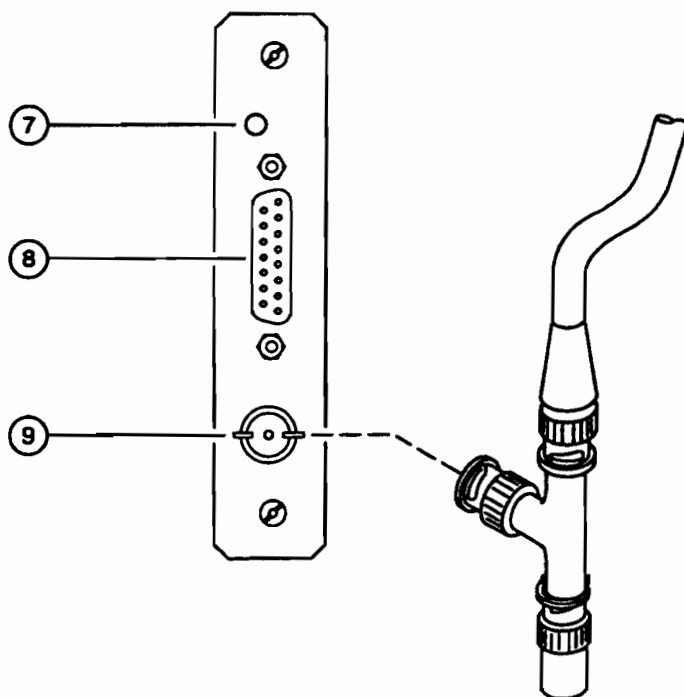
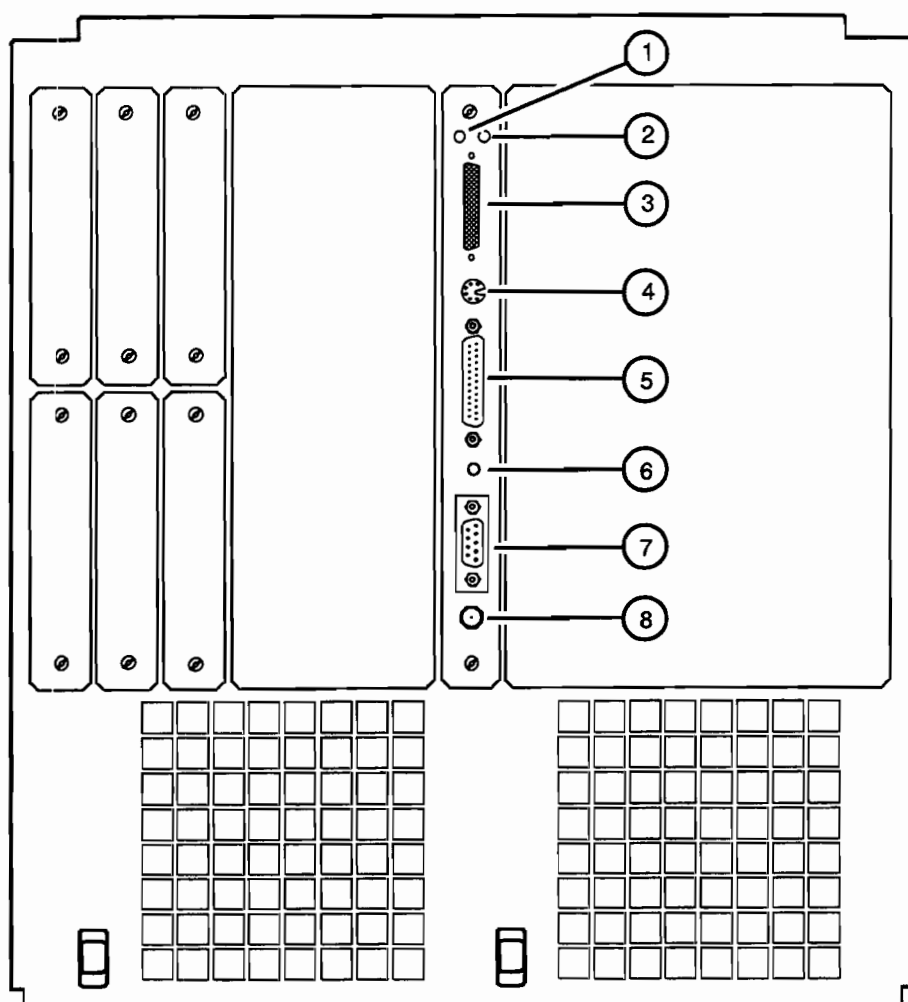
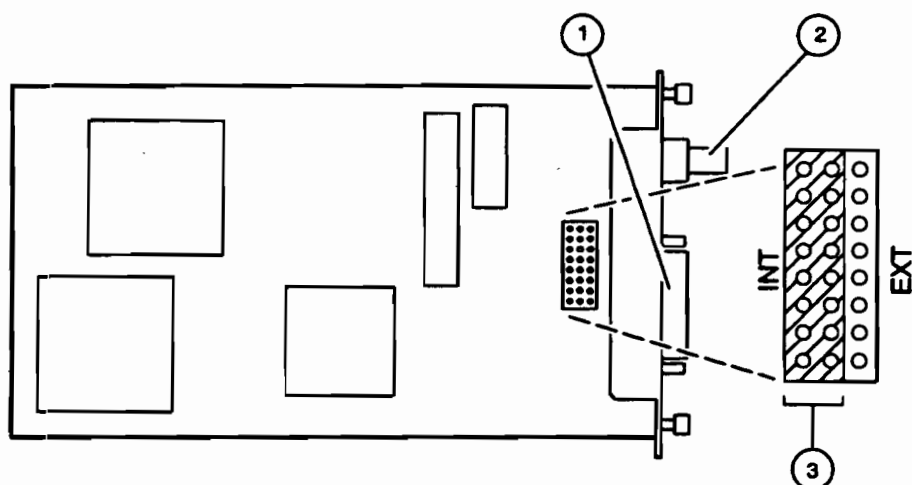

Figure 2-16. LAN Connectors
Figure 2-17. HP 9000 887S, 897S Rear Panel
Figure 2-18. LAN Card Jumper
You may have purchased an option for your HP 9000 817S, 827S, 837S, 847S, 857S, 867S, or 877S which removes the connections for the data distribution panels. If you have purchased this option, your connectors look like those shown in figure 2-17. In that case, follow the installation instructions for the HP 9000 887S, and 897S.
If you have a network card installed in your computer, you must connect your network to your computer before you can communicate with other computers. Figure 2-16, number 9 shows the LAN card with its connector. This card is standard on the HP 9000 817S, 827S, 837S, 847S, 857S, and 877S. It is optional on the HP 9000 807S, 887S, and 897S. This card is located to the left of the card where you connected the active distribution panel.
Figure 2-17 shows the rear panel of the HP 9000 887S, and 897S. The LAN connector is number 8.
Your LAN card comes installed from the factory with the bottom connector (the LAN connector) configured so that it will work. The top connector (AUI connector, figure 2-16, number 8, or figure 2-17, number 7) is also available. This connector can be used for networks such as ThickLAN and twisted-pair. Before you can use this connector you must change an internal jumper. Figure 2-18 shows the location of this jumper on the LAN card.
4. Refer to figure 2-18, number 3, and remove the jumper from the internal (INT) side of the jumper block by pulling it vertically off of the pins.